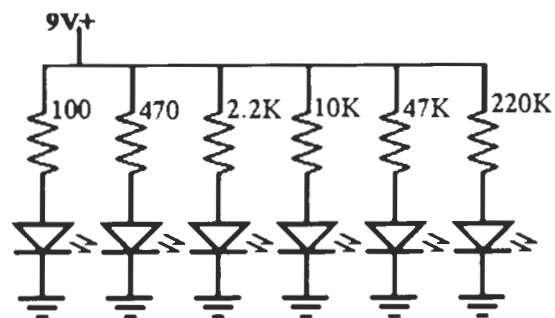

Figure L46-8
*Don't* breadboard the setup in Figure L46-8. You did this same set of resistors early on, and you can copy the values directly from the exercise sheet you did in Lesson 5.